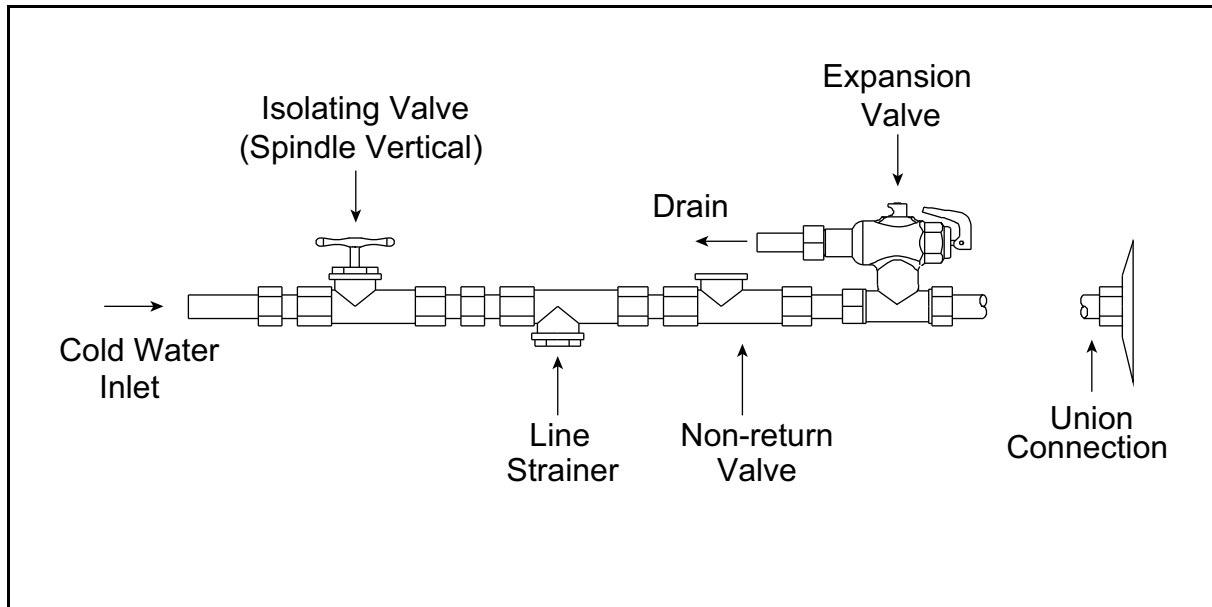

Figure 2 - Inlet Connections
**It is a state requirement that a pressure relief valve be fitted on the cold water supply line between the non return valve and the water heater. Refer to Inlet Connections refer Figure 2.**